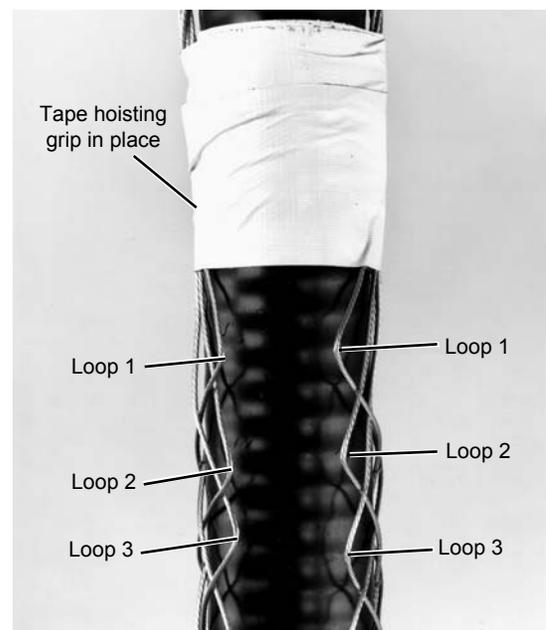

Figure 2B
2. Identify the first three loop pairs to be laced at the crimped fittings as shown in **Figure 2A**. Make sure the loops are not tangled. It is important that the loop pairs are correctly matched to ensure maximum gripping strength. Then tape both crimped fittings to the cable as shown in **Figure 2B**. This will align the loop pairs of the hoisting grip and aid in lacing.